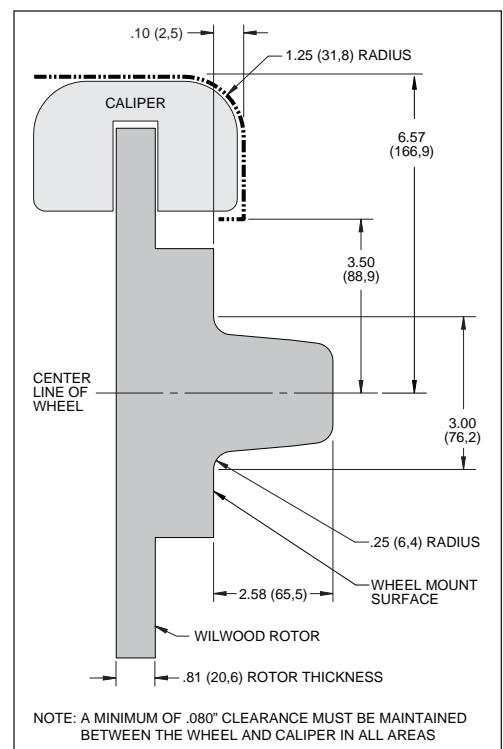

Figure 2. Wheel Clearance Diagram
- Review the Wheel Clearance Diagram (Figure 2, page 3) to verify that there is adequate clearance with the wheels you will be using with the installation.
- Verify your wheel clearance using Figure 2.
- WARNING:** The wheel contact surfaces must seat completely on the face of the hub. If any contact surfaces overhang the outside diameter of the hub face, a 6.60" diameter x .20" thick spacer (item 27, Wilwood P/N 300-11961) MUST be used between the wheel and the hub.